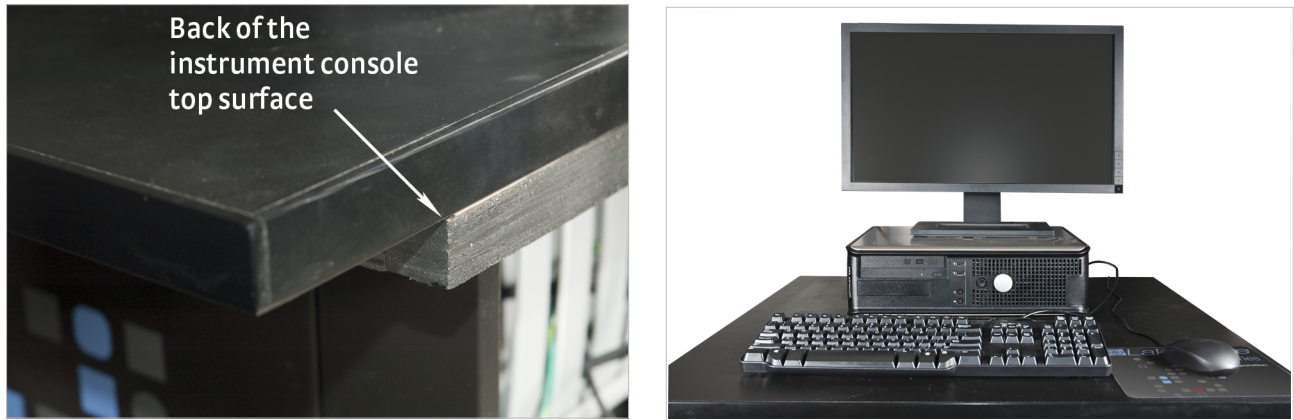

FIGURE 3-14 Left: The back of the top surface indicated by the wooden piece; Right: Instrument console with computer, mouse and keyboard
1. Place the top surface on the top of the instrument console. You can find the “back” of the surface by looking for the side with the wooden piece flush with the top surface (FIGURE 3-14). It should face the rear of the instrument console.
3. Place the monitor on top of the computer (FIGURE 3-14).